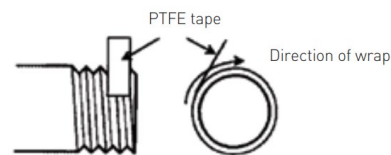

FIGURE 1
3. Wrench tighten tailpipes of upper and lower gaugecocks to the vessel using PTFE tape, or equivalent, on all male tapered pipe thread connections as shown in Figure 1. If the gaugecock is flanged or weld mount, use proper industry standard procedures.
Leakage around union connections can often be stopped by tightening union coupling nut or remaking the connection using PTFE tape, or equivalent, on all male pipe threads as shown in Figure 1. Internal or external corrosion could be an indication of a misapplication. An investigation should be carried out immediately to determine the cause of the problem. It is the user's responsibility to choose a material of construction compatible with both the contained fluid and the surrounding atmosphere.